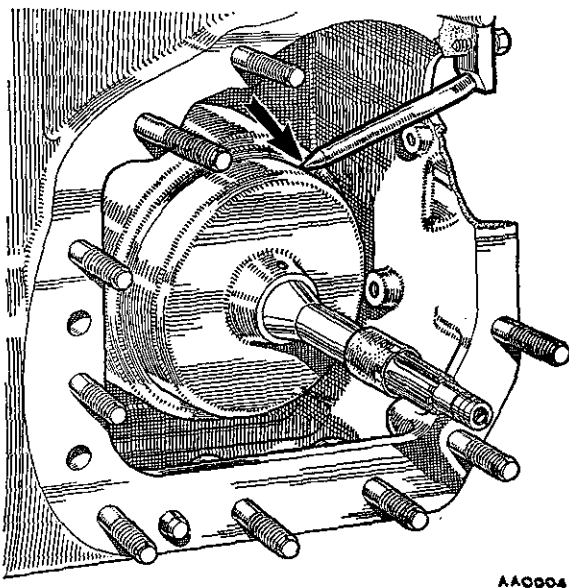

Fig. Fa.19
- (3) Unscrew and withdraw the gear selector rod and remove the front cover (the connecting bobbin is pressed into the later-type cover).
- (4) Remove the governor control assembly from the transmission case and fit Service tool 18G 1097 (see Fig. Fa.19).
- (5) Remove the securing nuts and pull the auxiliary pump and governor assembly from the transmission case.
- (6) Remove the dowel bolt and pull out the auxiliary pump filter outlet pipe.
- (7) Pull out the auxiliary pump outlet and the forward clutch apply pipes.
- (28) Position the plastic sleeve over the rings on the forward clutch shaft and refit the forward clutch unit. Fit Service tool 18G 1097 to retain the correct position of the forward clutch unit (see Fig. Fa.19).
- (29) Fit new seals to the three valve block bobbins and fit them into their locations in the transmission casing.